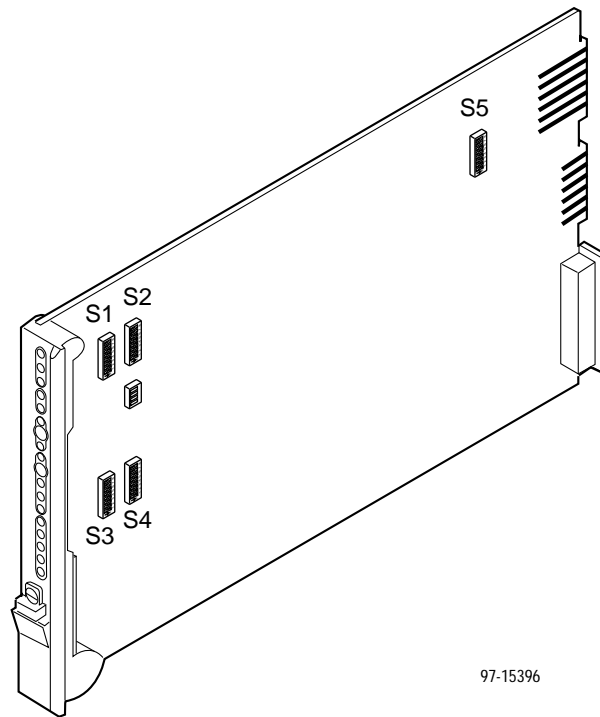

Figure 2-1. Model 7511 Switch Locations
3. Using Figure 2-1 and Table 2-1, verify that the switch settings for both DSUs on the 7511 card match your selections.